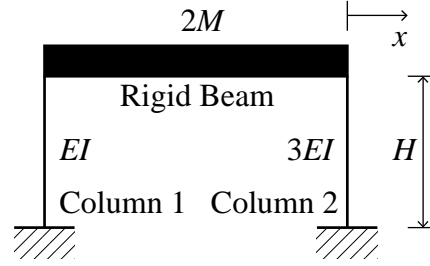
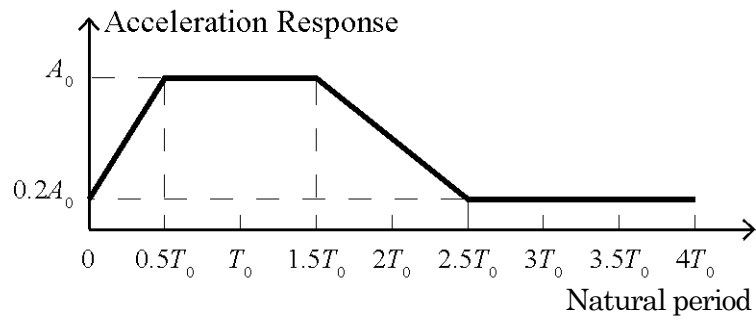
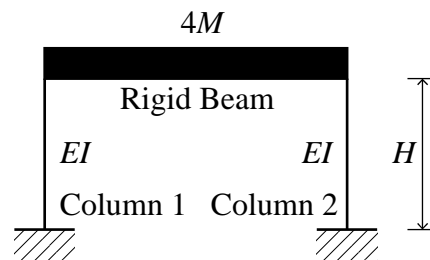
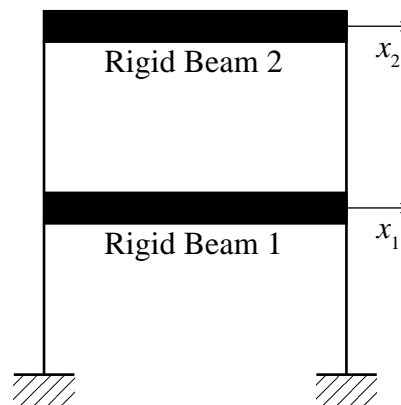

Fig. 2-1
Fig. 2-2
Fig. 2-3
Fig. 2-4
Consider a one-story, one-bay frame having a rigid beam shown in Fig. 2-1. The mass of the beam is $2M$, the length of the columns is H , and the flexural rigidities of Column 1 and Column 2 are EI and $3EI$, respectively. Suppose that the beam moves only horizontally, the columns deform only in flexure, the mass of the columns is negligible, and the frame vibrates without damping. Let the lateral stiffnesses of Column 1 and Column 2 be K_1 and K_2 , respectively, and the natural period of vibration of the frame be T_0 . Answer the questions from (1) to (4) assuming that P- Δ effect (a kind of geometrical nonlinearity) is negligible.
- (1) When a lateral force was applied to the beam statically, the beam displaced d horizontally and resulting shear forces of Column 1 and Column 2 were Q_1 and Q_2 , respectively. Lateral stiffnesses of Column 1 and Column 2, K_1 and K_2 , are determined by $K_1 = \frac{Q_1}{d}$ and $K_2 = \frac{Q_2}{d}$, respectively. Determine K_1 and K_2 using H and EI .
- (2) Consider the free vibration of the frame shown in Fig. 2-1. Answer the following questions (2-1) and (2-2). Equations below can be referred.
- (2-1) Determine the natural vibration period T_0 of the frame shown in Fig. 2-1 using M , K_1 , and K_2 .
- (3) Fig. 2-2 shows the acceleration response spectrum of a ground motion for undamped system. The peak story shear force in the frame shown in Fig. 2-1 due to the ground motion can be determined to be $2MA_0$ from the product of the mass and the acceleration response of the frame. Now consider a different frame shown in Fig. 2-3 in which the mass of beam is changed from $2M$ to $4M$ and the flexural rigidity of Column 2 is changed from $3EI$ to EI for the frame shown in Fig. 2-1. Determine the peak story shear force Q_{\max} in the frame shown in Fig. 2-3 due to the ground motion using M and A_0 .
- (4) Consider a two-story, one-bay frame shown in Fig. 2-4 in which another one-story frame is added on the frame shown in Fig. 2-1.